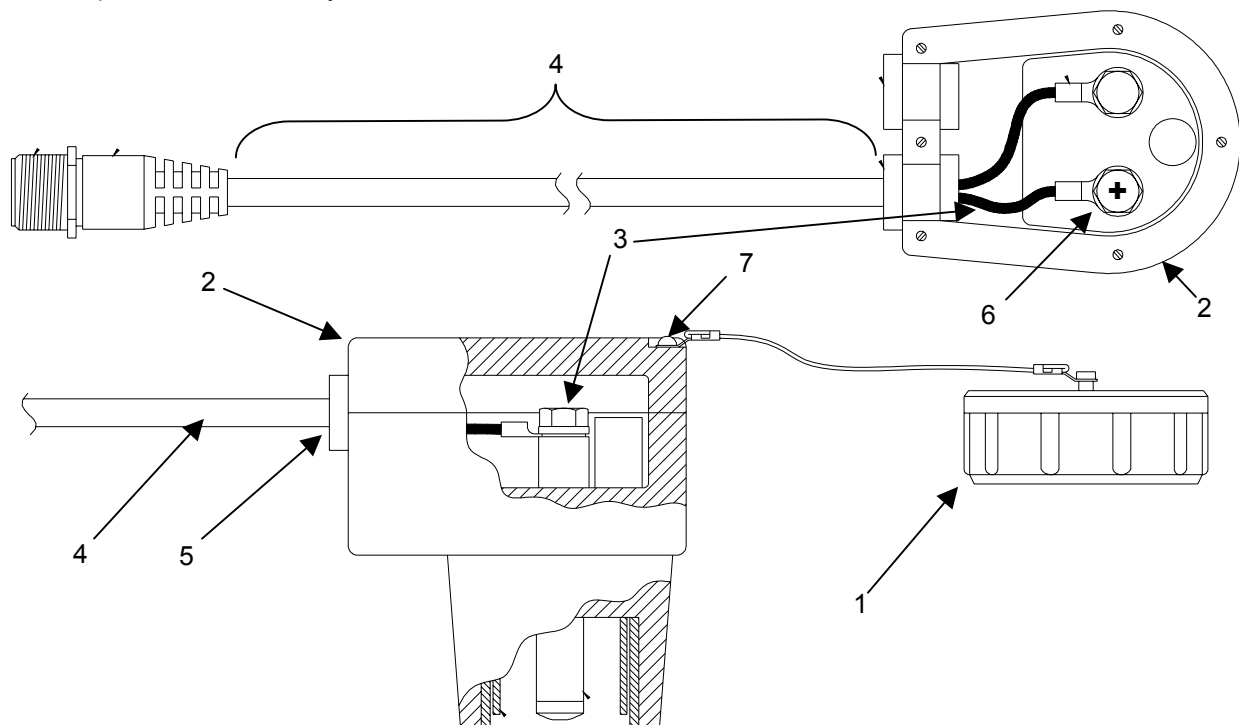

Figure 3. Replace NATO Adapter Cable Components
1. Remove the protective cap (**figure 3, item 1**).
2. Remove the six screws that secure the back cover of the main connector head (**figure 3, item 2**).
3. Remove the two hex head bolts (**figure 3, item 3**) that secure the power cable (**figure 3, item 4**) to the main power connector head (**figure 3, item 2**) and remove the cable assembly.
4. Install a new power cable (**figure 3, item 4**) or new main connector head (**figure 3, item 2**) making sure to place the power cable strain relief (**figure 3, item 5**) into the slot on the main power connector head.
5. Place the power cable terminals in position by aligning the (+) positive lead of the cable with the (+) terminal (**figure 3, item 6**) on the main connector head (**figure 3, item 2**) and install the two hex head bolts (**figure 3, item 3**).
6. Place the back cover of the main connector head (**figure 3, item 2**) into position. Place a new cap or the cap removed earlier into position over the top screw hole (**figure 3, item 7**) and secure the six cover screws.